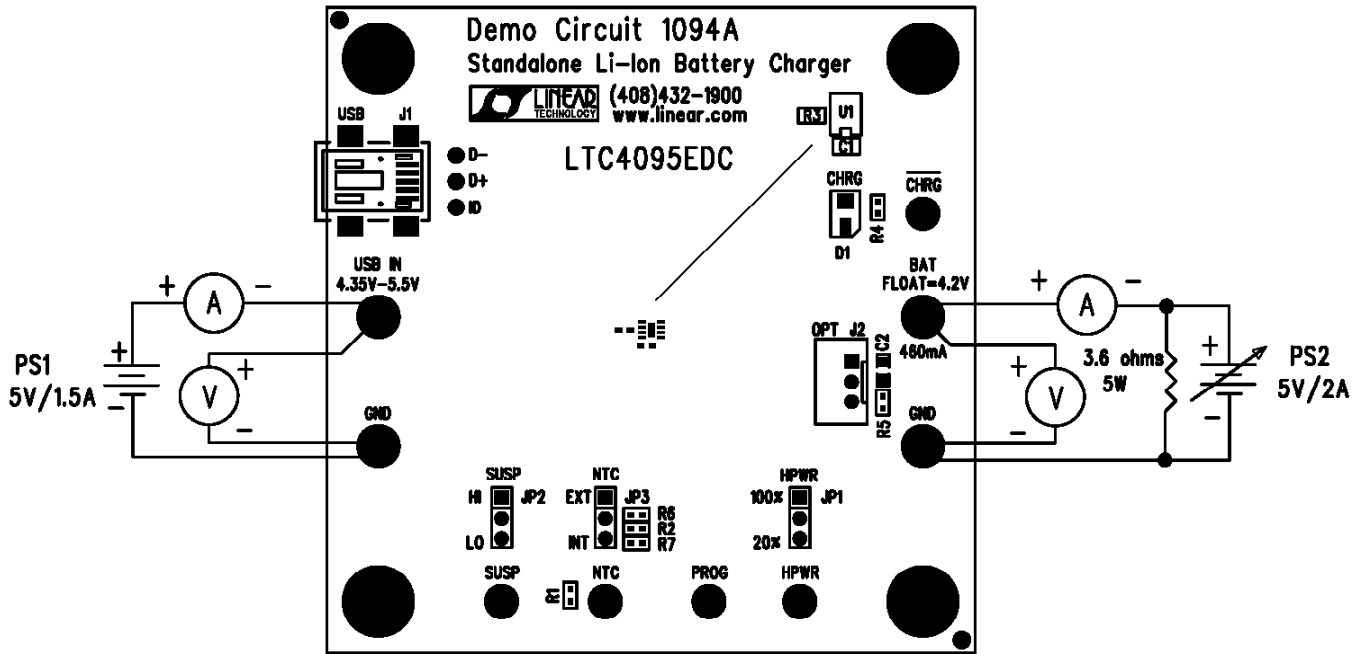

Figure 1. Proper Measurement Equipment Setup
Demonstration circuit 1094 is easy to set up to evaluate the performance of the LTC4095. The charger may be evaluated using an actual Li-Ion battery, a bi-polar supply, or a battery simulator. A battery simulator consists of an adjustable supply with a load resistor across the supply output. A 3.6Ω 5W resistor value will provide an 800mA load at 2.9V. This will allow the power supply to sink and source current similar to a battery, but allows the battery voltage to be changed quickly or remain at the same value indefinitely. Refer to Figure 1 for proper measurement equipment setup and follow the procedure below:
- With the power supplies adjusted to 0V, connect the USB IN power supply and Battery or Battery Simulator with series ammeters, as illustrated in Figure 1. An ammeter or a $100m\Omega$ current sense resistor may be used to measure the battery charge current.
- Connect voltmeters, as shown in Figure 1, across the USB IN and GND terminals, and across the BAT and GND terminals. These voltmeters may also be used to measure the voltage on the PROG terminal.